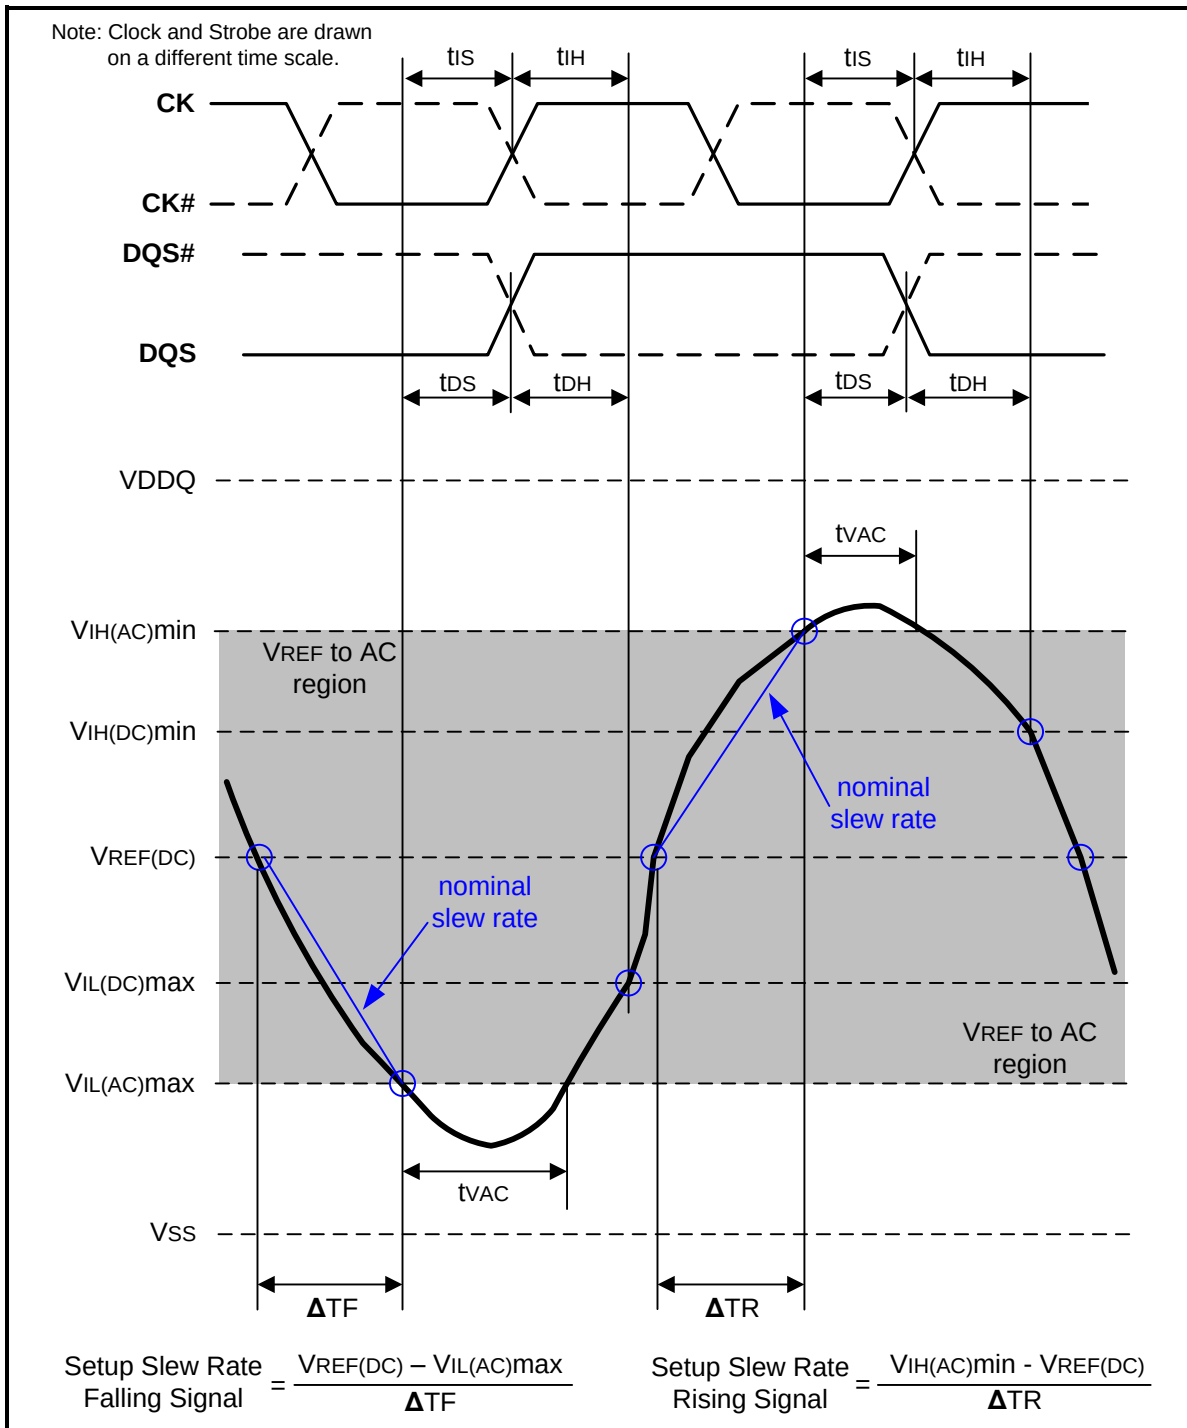
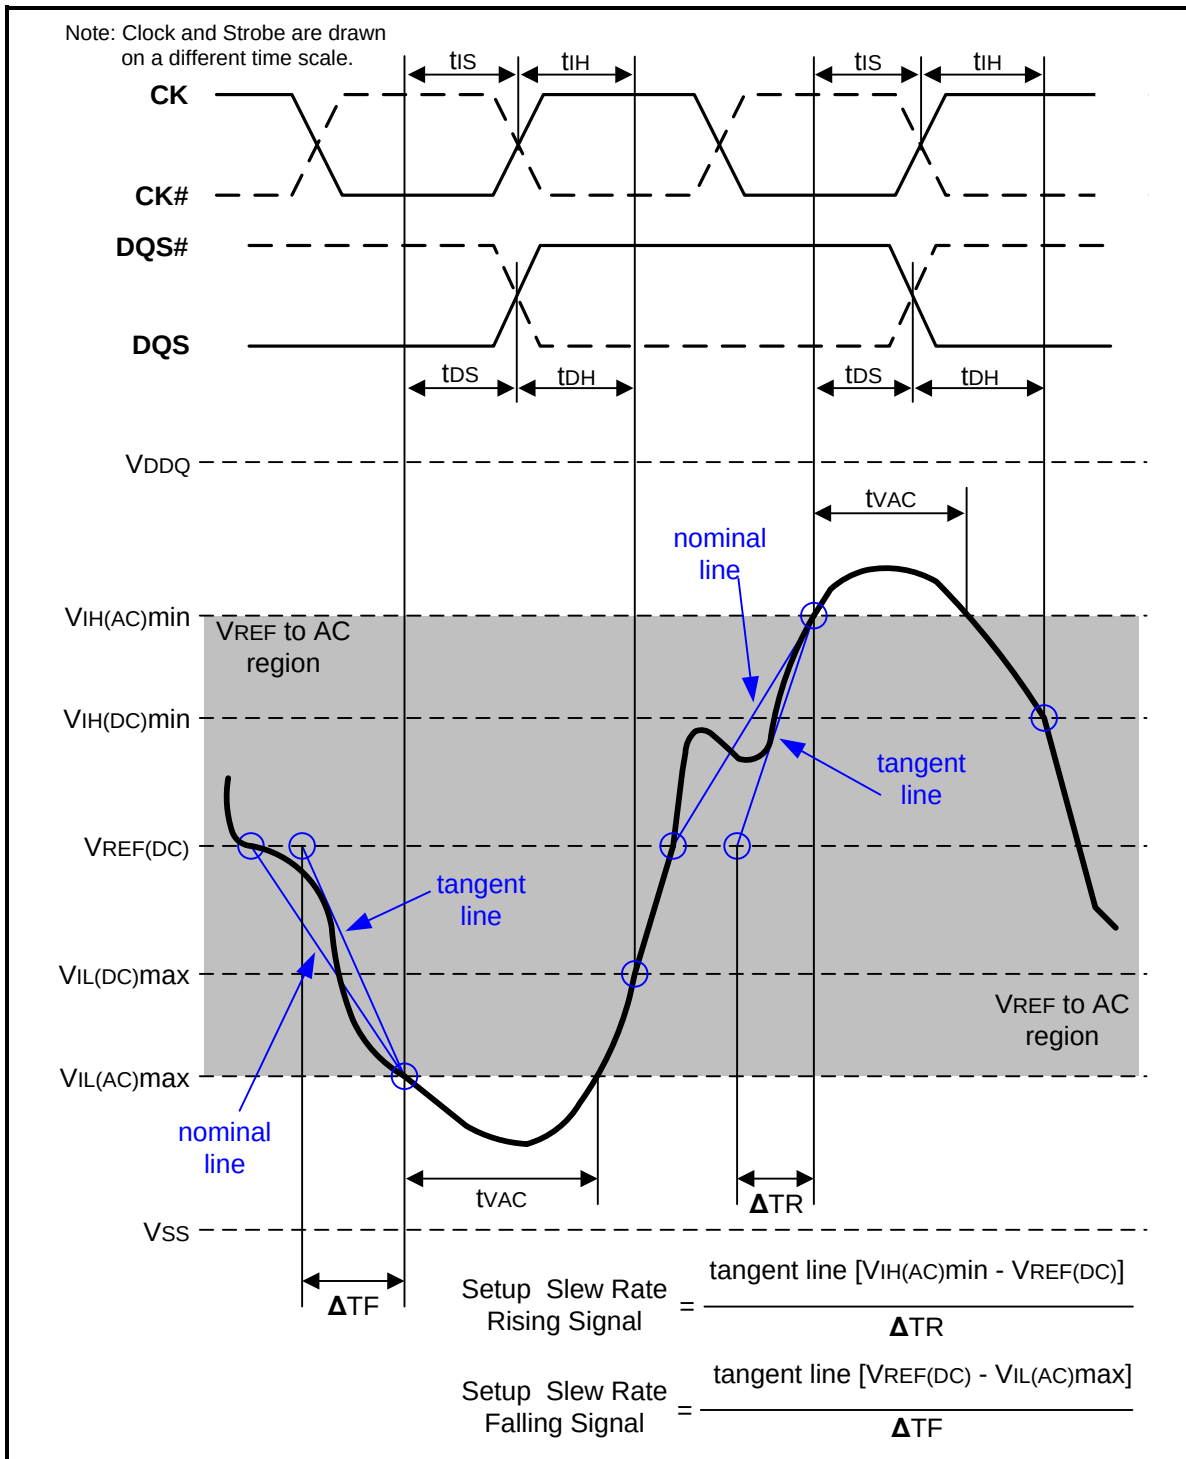

Figure 107 – Illustration of nominal slew rate and tvAC for setup time tds (for DQ with respect to strobe) and tis (for ADD/CMD with respect to clock)
Figure 109 – Illustration of tangent line for setup time t_{DS} (for DQ with respect to strobe) and t_{IS} (for ADD/CMD with respect to clock)
Setup (t_{IS}) nominal slew rate for a rising signal is defined as the slew rate between the last crossing of $V_{REF}(\text{DC})$ and the first crossing of $V_{IH}(\text{AC})_{\text{min}}$. Setup (t_{IS}) nominal slew rate for a falling signal is defined as the slew rate between the last crossing of $V_{REF}(\text{DC})$ and the first crossing of $V_{IL}(\text{AC})_{\text{max}}$. If the actual signal is always earlier than the nominal slew rate line between shaded ' $V_{REF}(\text{DC})$ to AC region', use nominal slew rate for derating value (see Figure 107). If the actual signal is later than the nominal slew rate line anywhere between shaded ' $V_{REF}(\text{DC})$ to AC region', the slew rate of a tangent line to the actual signal from the AC level to DC level is used for derating value (see Figure 109).
Setup (tDS) nominal slew rate for a rising signal is defined as the slew rate between the last crossing of VREF(DC) and the first crossing of VIH(AC)min. Setup (tDS) nominal slew rate for a falling signal is defined as the slew rate between the last crossing of VREF(DC) and the first crossing of VIL(AC)max (see Figure 107). If the actual signal is always earlier than the nominal slew rate line between shaded 'VREF(DC) to AC region', use nominal slew rate for derating value. If the actual signal is later than the nominal slew rate line anywhere between shaded 'VREF(DC) to AC region', the slew rate of a tangent line to the actual signal from the AC level to DC level is used for derating value (see Figure 109).